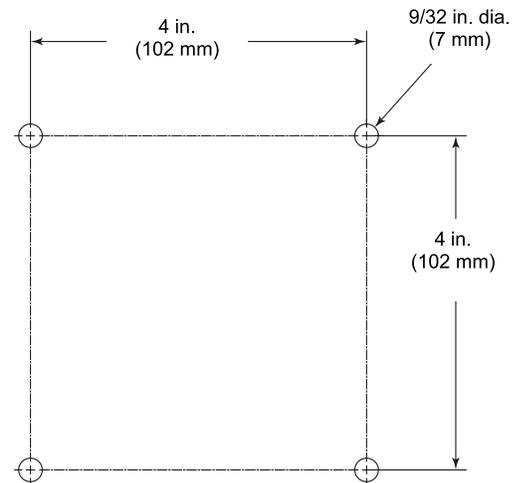

Figure 3 Series 8HPH Mounting Dimensions Guide
3. Drill holes in workbench using the dimension guide in Figure 3.